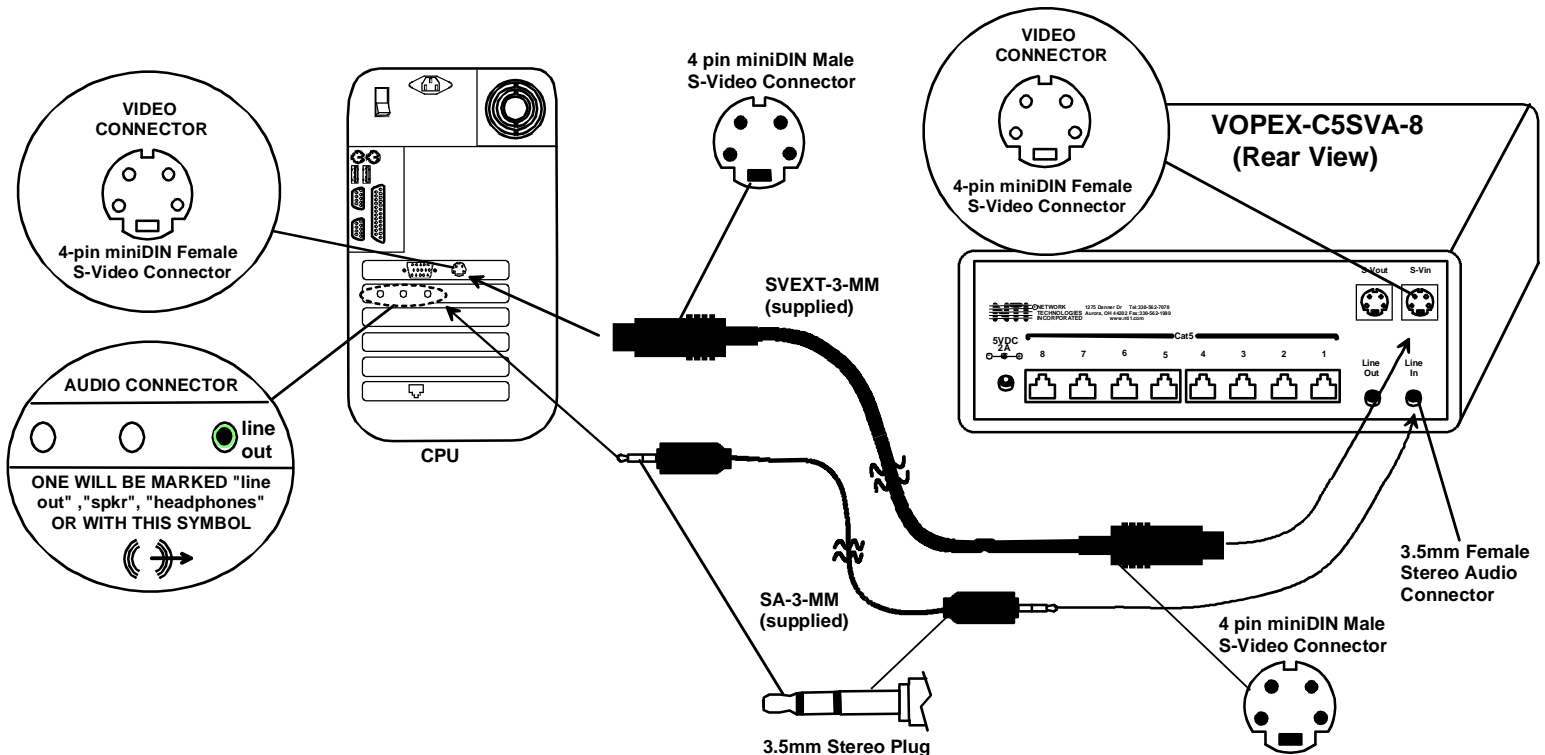

Figure 1- Connecting a VOPEX-C5SVA-8 to a CPU
1. Make connections between the VOPEX-C5SVA-x and the audio and video source(s). (See Fig. 1.)